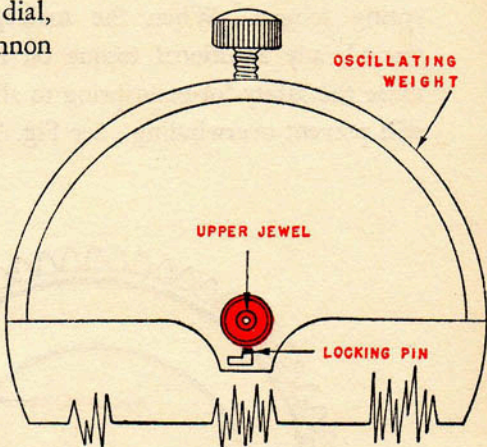

FIG. 8
1. Pull locking pin all the way back in its L shaped slot to slip off the oscillating weight from the arbor. See Fig. 8. Do not remove locking pin and spring assembly.